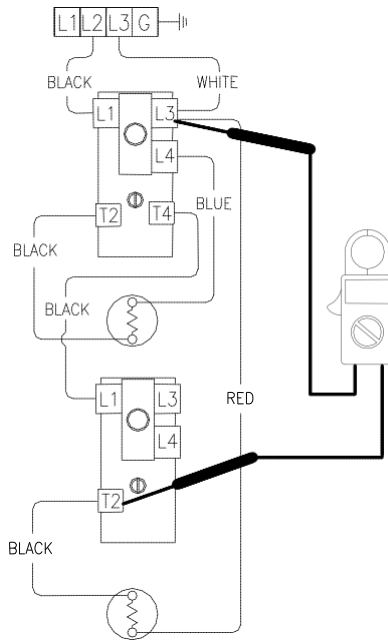

Figure 9
7. Check voltage across terminal L3 of upper thermostat & T2 of lower Thermostat. (see Figure 9).